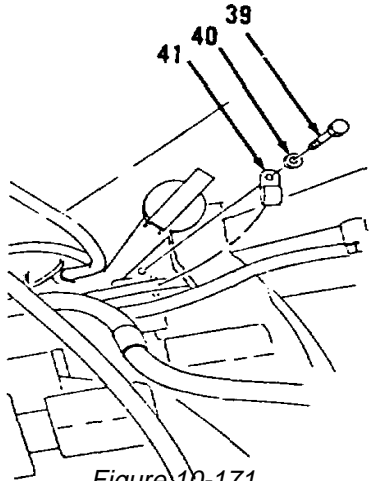

Figure 10-171.
- 17. Install clip (41), washer (40) and bolt (39, Figure 10-171).